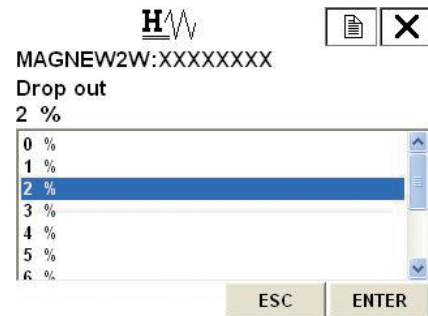

Fig. 7-27.
2. Once the display as shown in Fig. 7-27. appears, move the arrow key up or down to select drop-out value. Value can be specified from 0% to 10%. After making a selection, press F4(ENTER). If F3 (ESC) is pressed here, the selection will be canceled and the display will return to the Noise immunity menu.